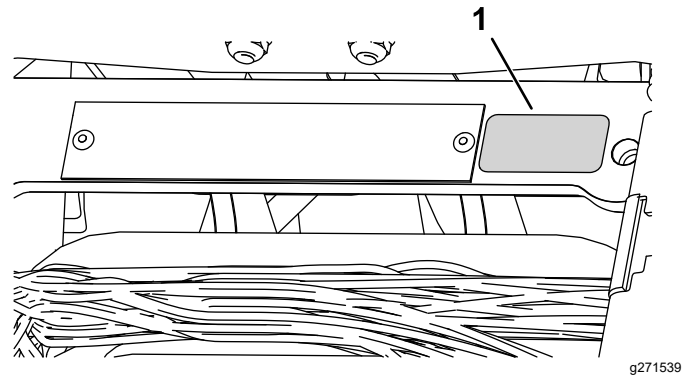

Figure 15
- Install the production year decal near the serial plate (Figure 15).